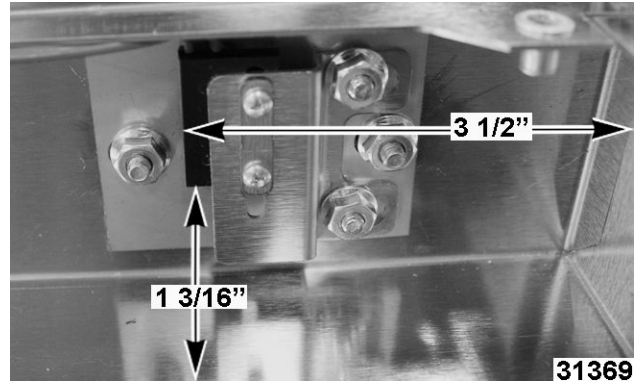

Fig. 131
- C. Loosen screws and nuts to adjust and obtain dimensions as shown in Fig. 131.